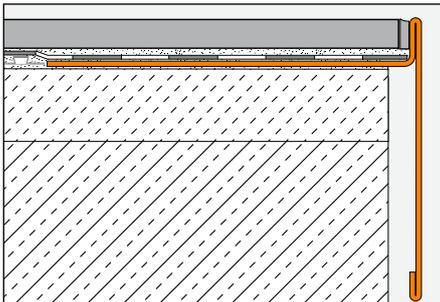
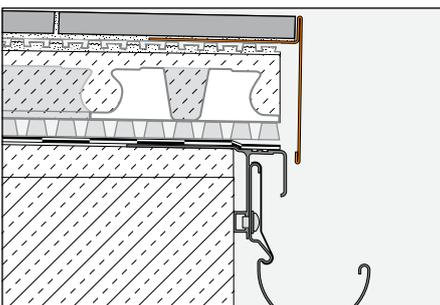

Fig. 4
Fig. 5
### Installation in conjunction with bonded tile assemblies with BARA-RT (Fig. 4 and 5)
2. Embed the trapezoid perforated anchoring leg of BARA-RT on the edge of the screed (Fig. 4) or on the previously installed drainage membrane Schlüter-DITRA-DRAIN (Fig. 5) by placing it into the thin-set mortar bed and completely covering it with mortar.